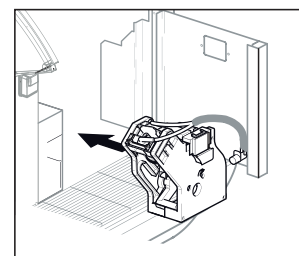

Fig. 2
- 5 Reinstall the brew group (screen will display "CLOSE SERV. DOOR"), then close the door. (Fig. 2)
- 8 Reinstall the brew group (screen will display "CLOSE SERV. DOOR"), then close the door. (Fig. 2)